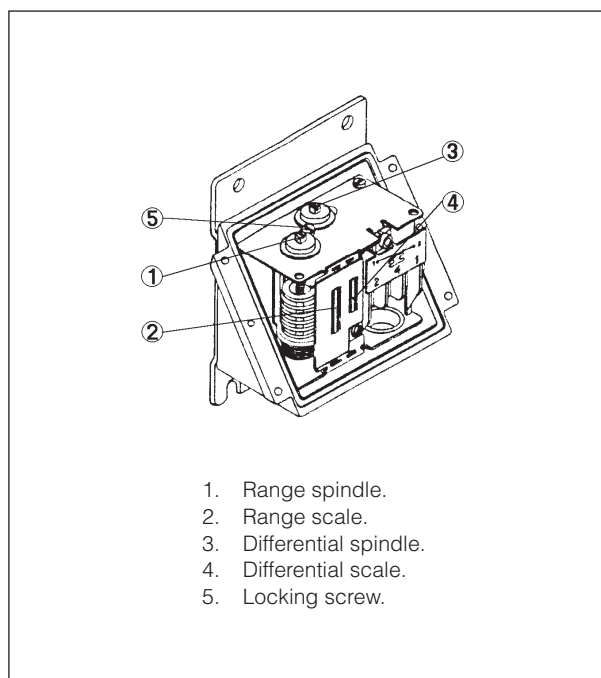

Fig. 1.
1) When the thermostat cover is removed and locking screw pos. 5, fig. 1 is loosened, the range can be set with the spindle pos. 1 while at the same time the scale pos. 2 is read.